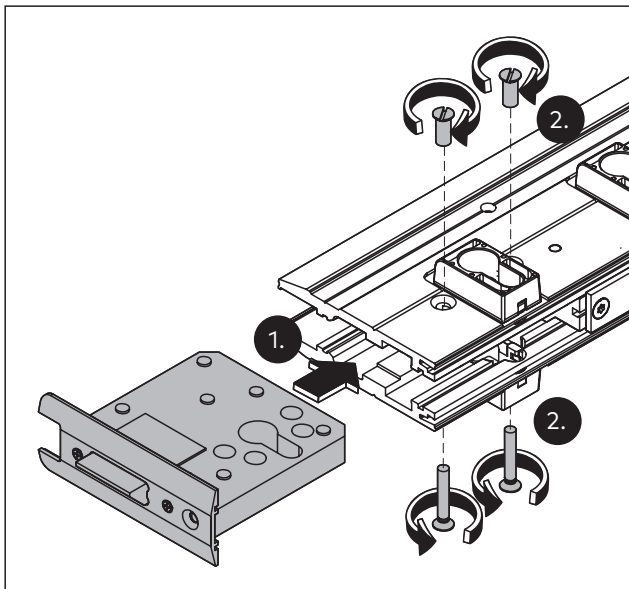

Fig. 13 Re-mounting the latch lock
4. Insert the latch lock in the door rail (Fig. 13/1) and secure with the screws and sleeves (Fig. 13/2).